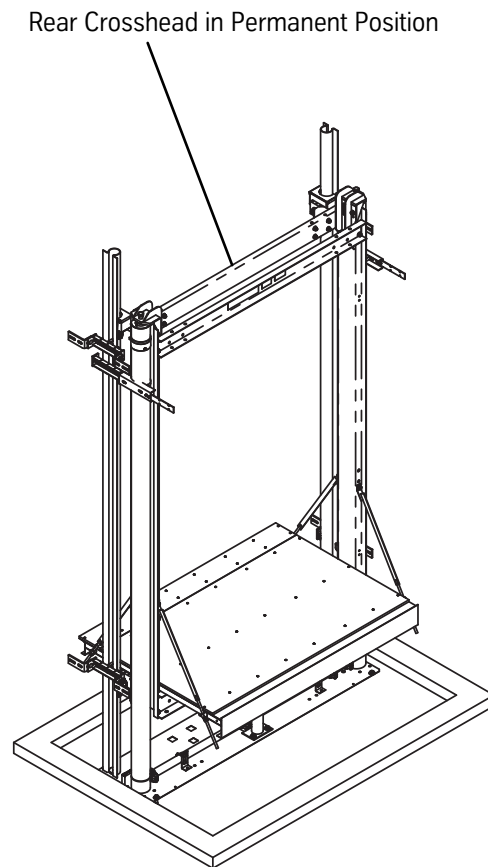

Figure 17 - Rear Crosshead Channel
1. With the car at the first landing, remove the rear crosshead channel from the stiles, and raise it up to its permanent location at the top of the stiles. See Figure 17.